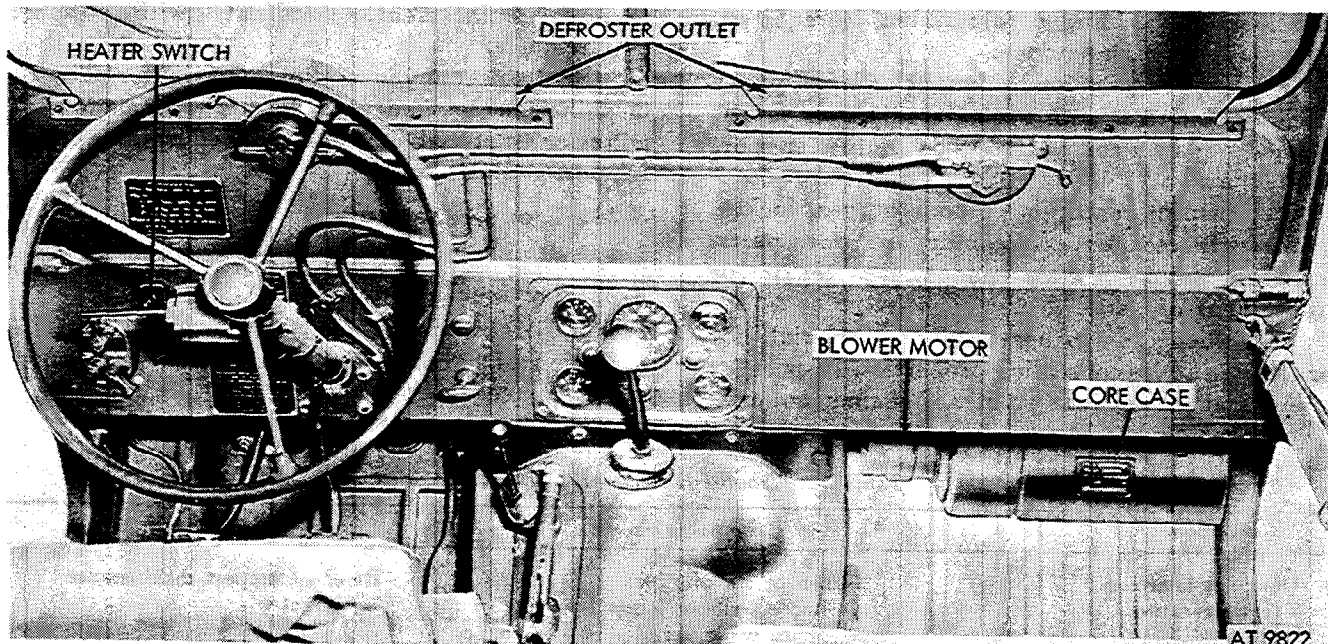

Figure 3-17. Hot water heater kit ( $-25^{\circ}\text{F.}$ ) installed.
b. *Hot Water Heater* (fig. 3-17). As the hot water heater obtains heat from the engine coolant, the engine temperature must be in the normal range for maximum heater output. The heater is connected to the engine cooling system by suitable fittings and hoses and is mounted under the dash panel below
a. Operate all controls. Refer to TM 9-2320-218-10 and figure 3-17.
a. *Removal.* Refer to figures 3-17 and 3-18.
(1) Remove three diverter box-to-heater retaining screws and lockwashers.
(2) Remove diverter box from heater.
(3) Remove right defroster hose elbow from nozzle flange and diverter.
(4) Disconnect duct from diverter.
b. *Installation.* Refer to figures 3-17 and 3-18.
(1) Connect hot air duct to diverter opening (driver side), and right defroster hose elbow to right side opening and nozzle flange.
(2) Position diverter box to heater outlet; insert three screws and lockwashers.